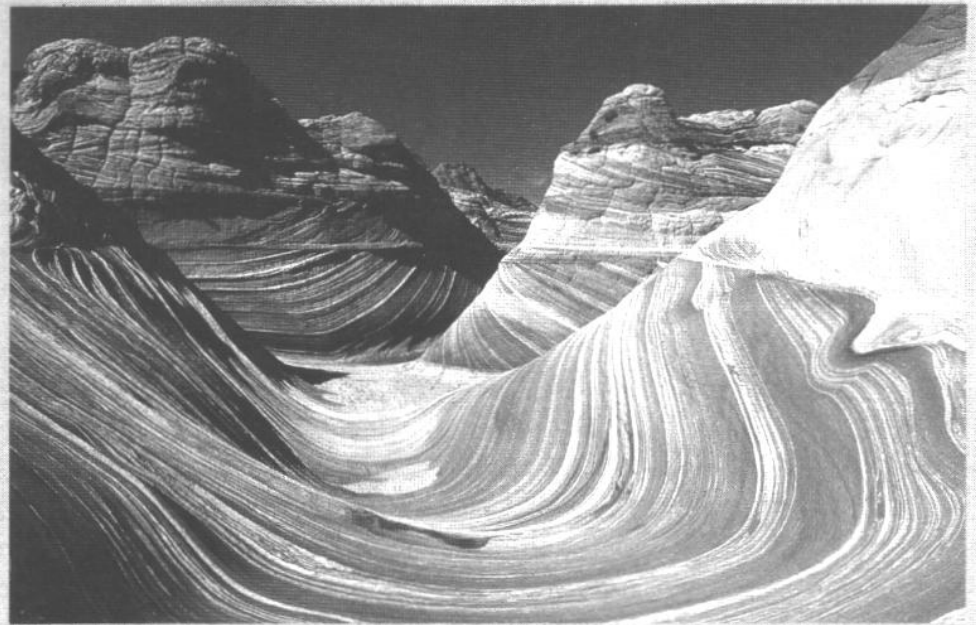

Figure. 3.10 Nestles Canyon, Arizona. Courtesy of Wolfgang Cohnen (©1997)
M. Reiner is credited with naming the Deborah Number after the song of Deborah, Judges 5:5- "The mountains flowed before the Lord" (Fig. 3.10). It was first mentioned in his article "The Deborah Number" in the January 1964 issue of Physics Today.